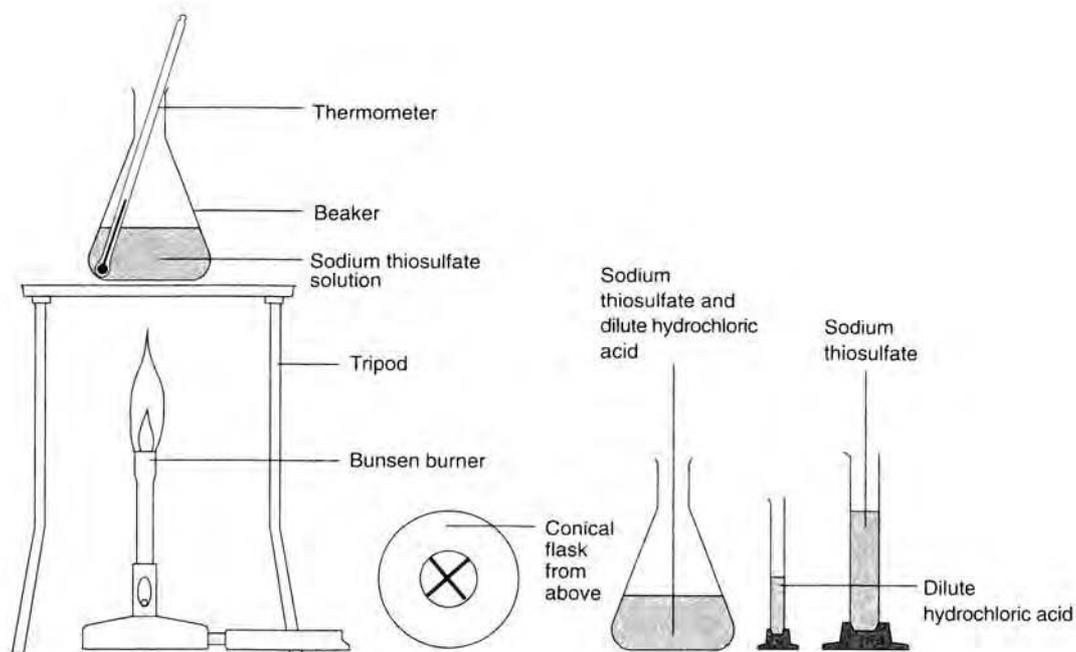

Figure 15.1
3. Warm the thiosulphate solution in the flask to the required temperature, as in Fig. 15.1.